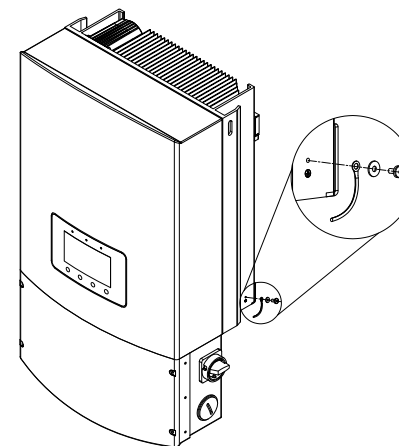

Figure 3.13 Connect the external grounding conductor
An OPTIONAL external ground connection (PE) is provided on the right side of the inverter. To use the OPTIONAL external ground connection (see Figure 3.13):